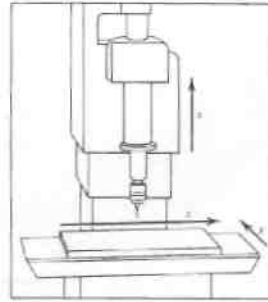

Figure 10.3 Coordinate system for a drill. (Y. Koren, *Computer Control of Manufacturing Systems*, McGraw-Hill, 1983.)
2. On a tool-rotating machine, such as a milling or boring machine, the Z axis is parallel to the tool axis, and the positive motion moves the tool away from the workpiece (Figures 10.3 and 10.4).